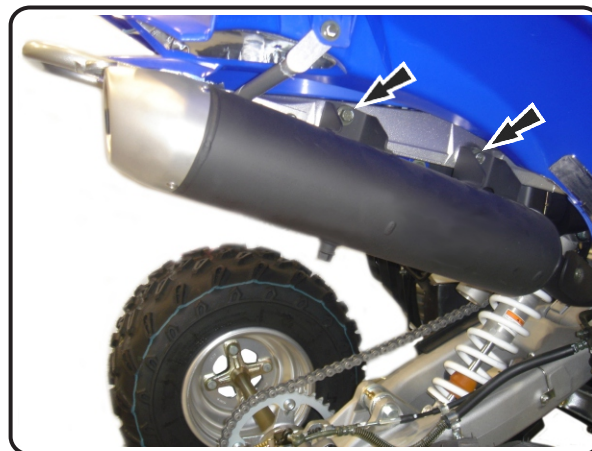
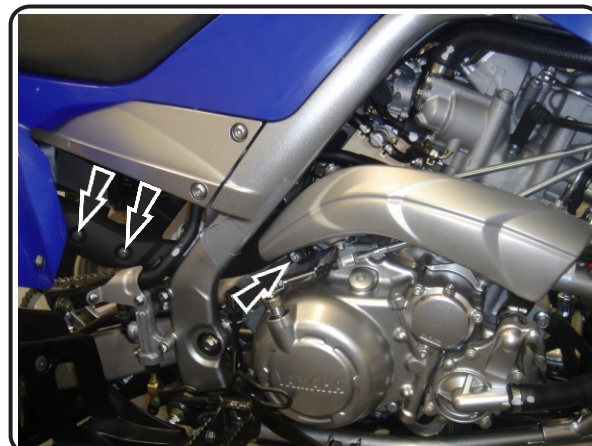

Fig. 1
Fig. 2
- 1 Unbolt and remove stock muffler and rear heat shield (see Fig. 1 and Fig. 2 for bolt locations).